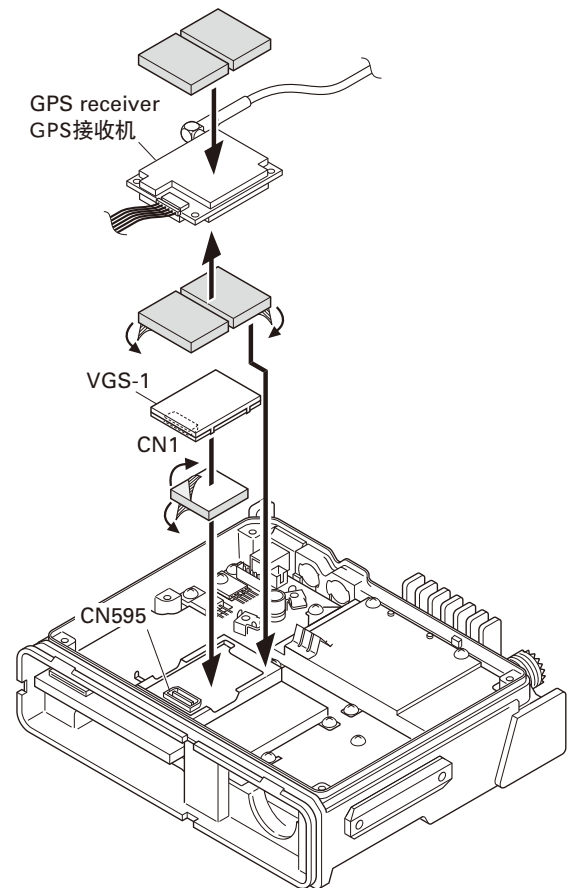

Fig. 6-5 / 图 6-5
3. Attach a cushion to the bottom of the VGS-1 as shown in Figure 6-5.
3. 如图 6-5 所示，将缓冲垫安装到 VGS-1 底部。